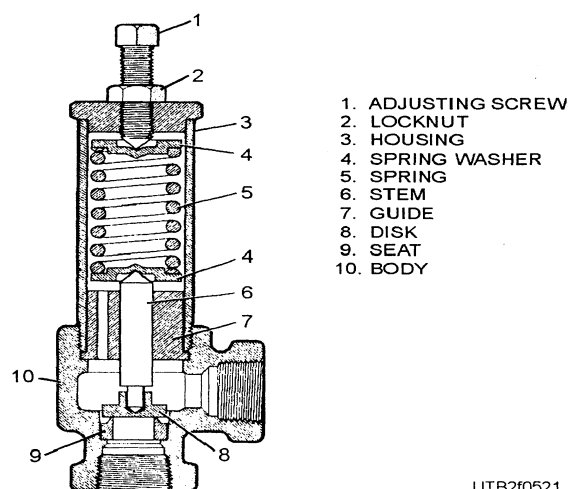

Figure 5-21.—Pump relief valve.
- The relief valve (fig. 5-21) of the water pump should be adjusted to open at about 500-psi feed pressure but remain driptight during operation. Leakage from this valve results in a lack of water to the heating unit and causes overheating. Sometimes when the unit is started, the feed pressure may temporarily rise enough to cause the relief valve to release a small amount of water; however, the feed pressure will return to normal after the unit heats and the system becomes stabilized.